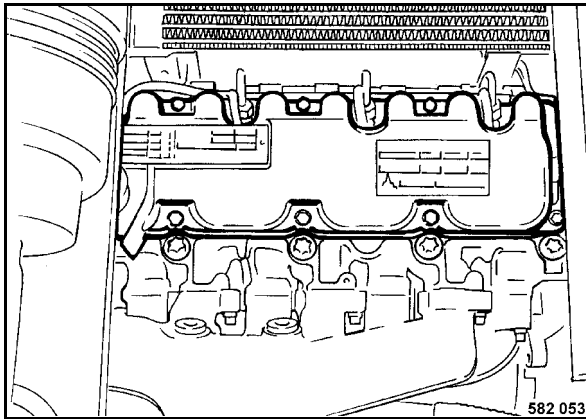

Fig. 79
- Remove the valve cover (Fig. 79).